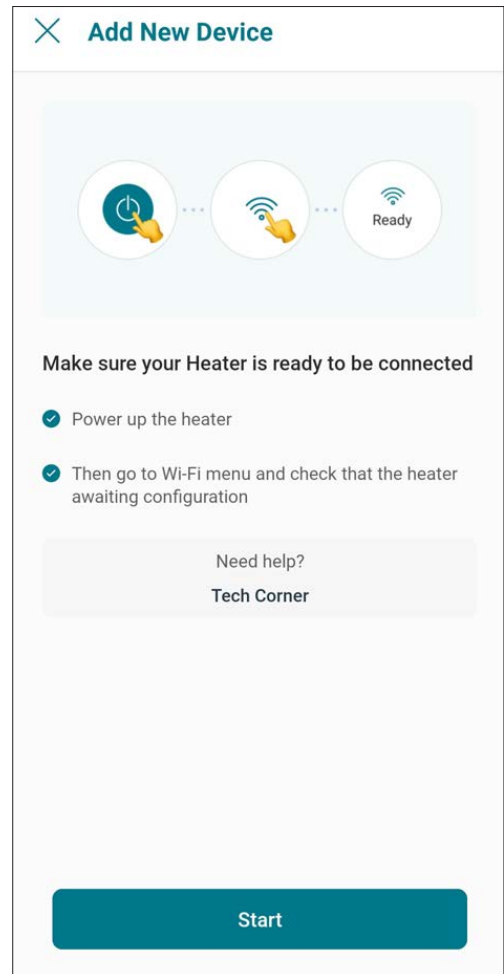

Figure 82. Check your Device
2. "Check your Device" screen will appear. Ensure to have AVIA heater powered and Wi-Fi signal available in the area, then press "Start" button. See **Figure 82**.